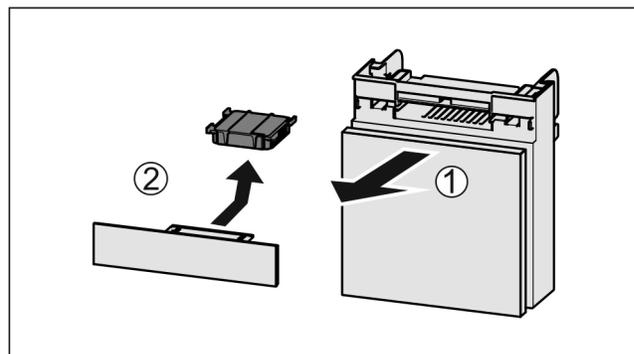

Fig. 43
- ▶ Pull out the compartment Fig. 43 (1).
- ▶ Remove the carbon filter Fig. 43 (2).